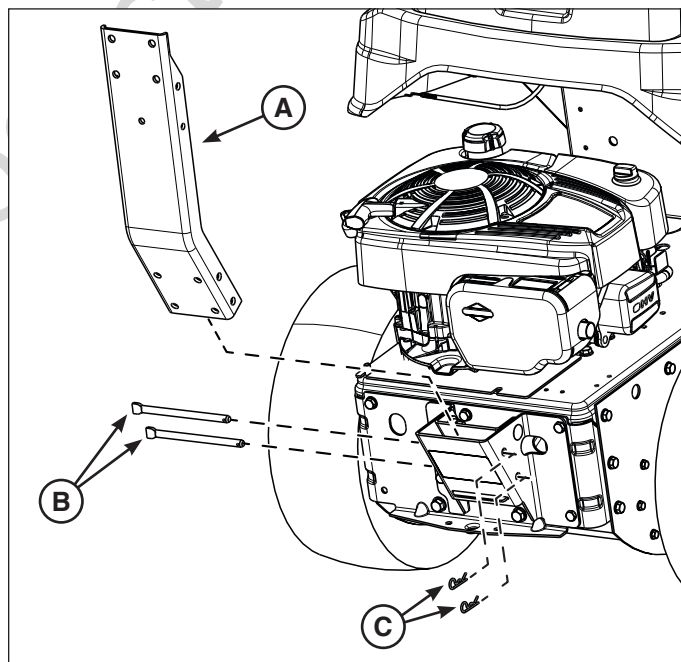

Figure 2
1. Install the upright support (A, Figure 2) into the catcher bracket as shown, securing with two 5-5/16" clevis pins (B) and 1-5/8" hair pins (C).